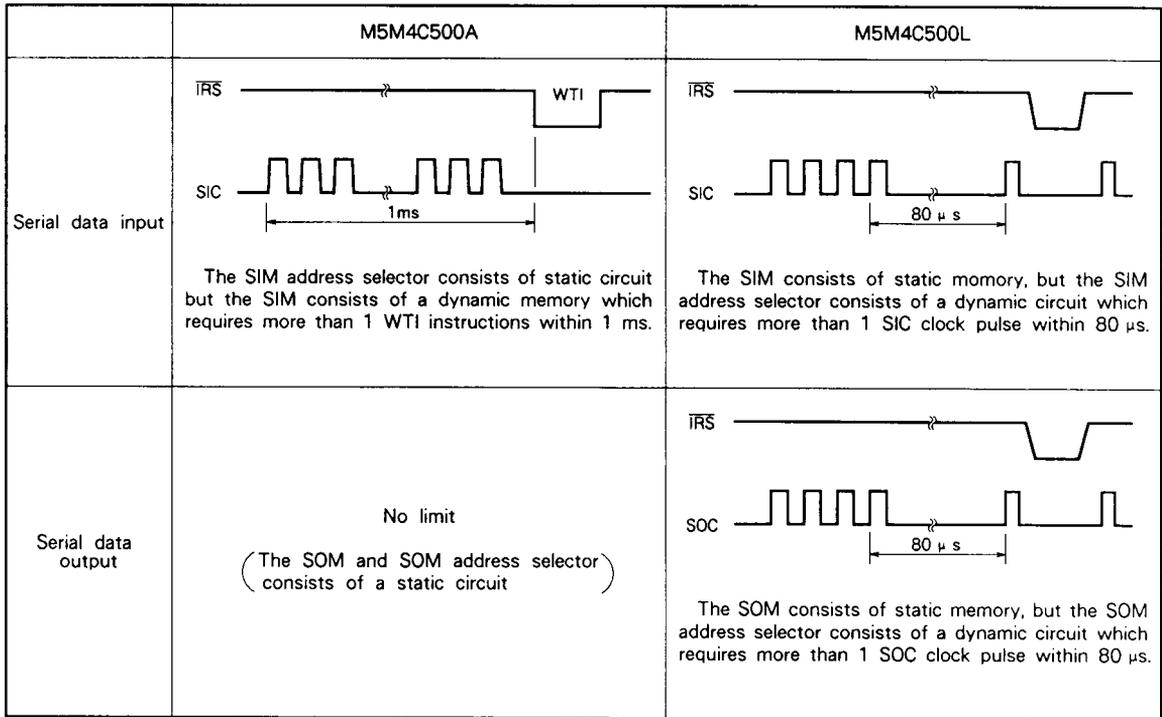

Fig. 9 Serial memory data hold time
- (1) The elimination of WTO forward function (See Table 5)
- (2) The change of serial memory data hold time (See Fig. 9)